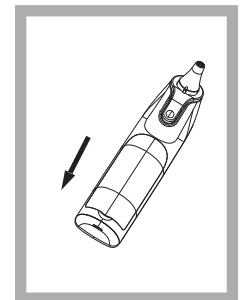

Figure11
- Slide battery cover down as shown in Figure 11.